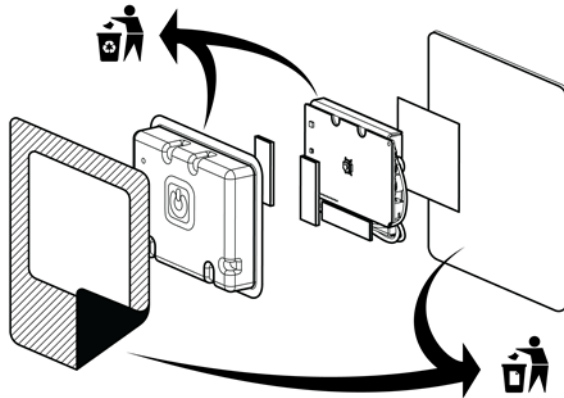

Fig. 6.2.2: Disassembling the device
2. Divide the device casing into halves and separate the electronic module from plastic and cardboard parts (Fig. 6.2.2).